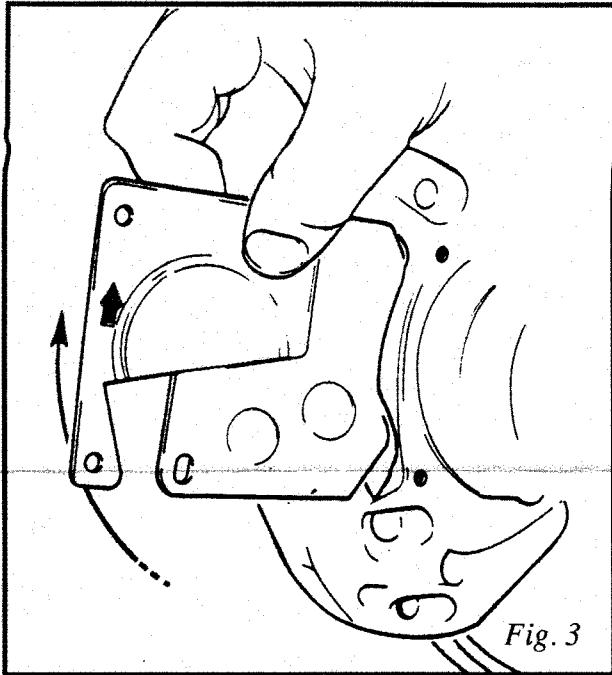

Fig. 3
5. Insert new brake pads and anti-squeal shims. The anti-squeal shims are to be placed between each brake pad and piston with the arrow shaped perforation pointing in the direction of disc rotation. (Fig. 3)